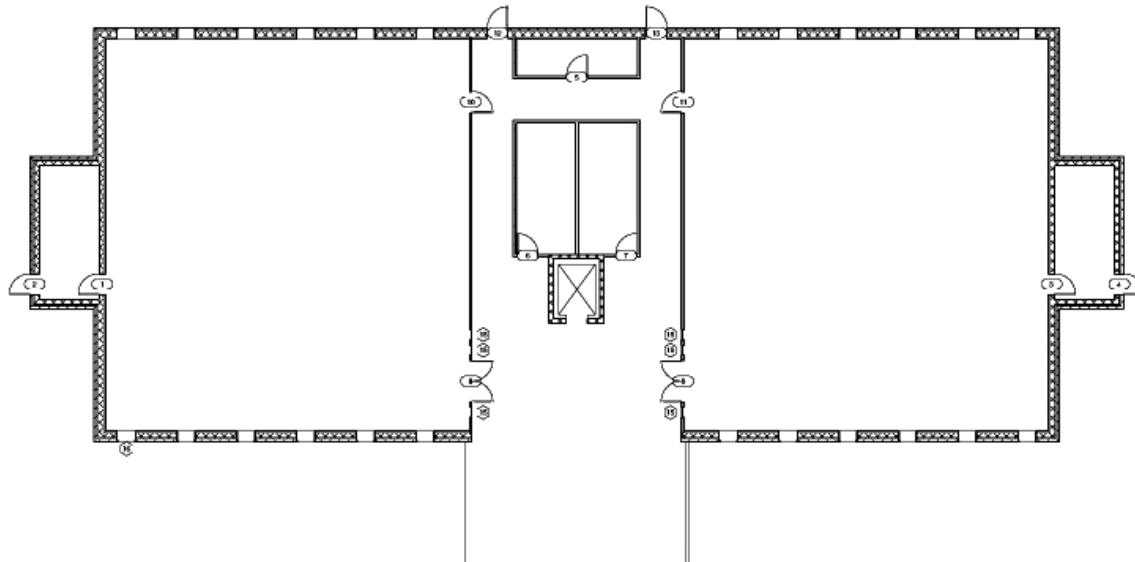

FIGURE 3-5.12 Completed window layout
22. Set the windows up on the three remaining walls of the first floor (Figure 3-5.12).